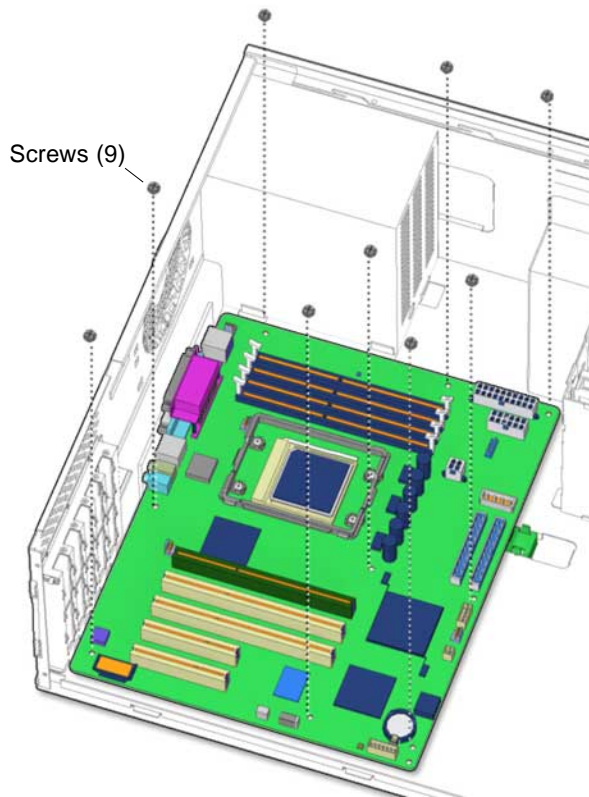

FIGURE 11-48 Installing the Motherboard Fastening Screws
Press the motherboard toward the rear of the chassis to align the screwholes. Using a No. 2 Phillips screwdriver, fasten all nine (9) screws that secure the motherboard to the chassis. See FIGURE 11-48.